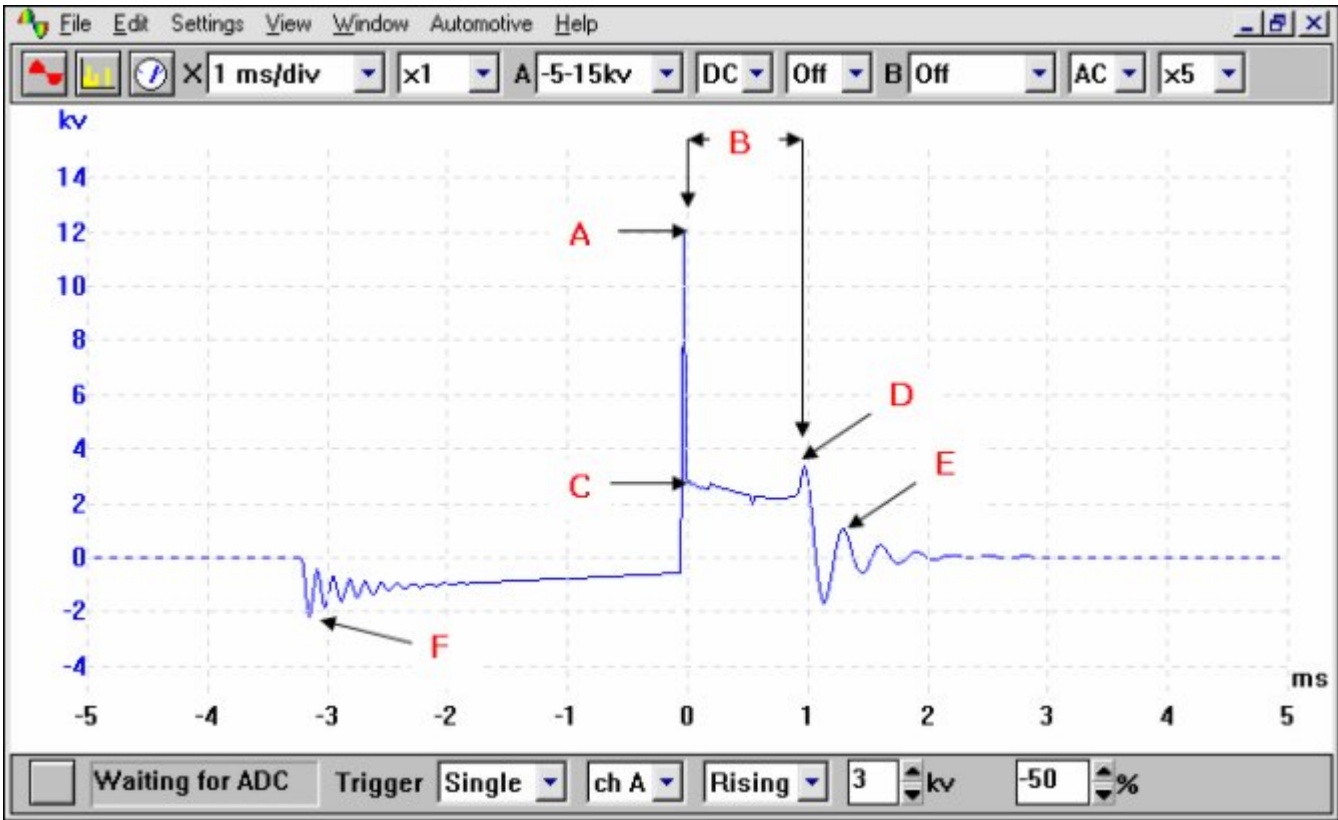

Figure 1.1
The ignition secondary picture shown in the example waveform (Fig 1.1) is a typical picture from an engine fitted with electronic ignition. The waveform is an individual secondary High Tension (HT) picture that can be observed one cylinder at a time.